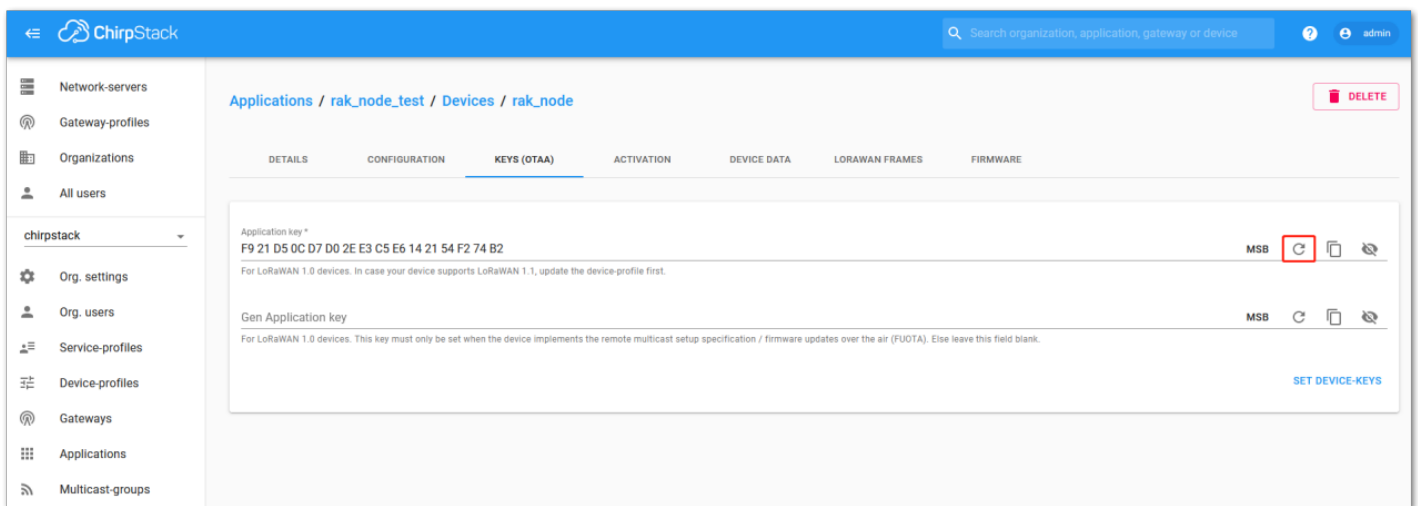

Figure 215: Chirpstack OTAA Set Application Keys
2. A previously created Application Key can be entered here, or a new one can be generated automatically by clicking the icon highlighted in red in **Figure 215**.